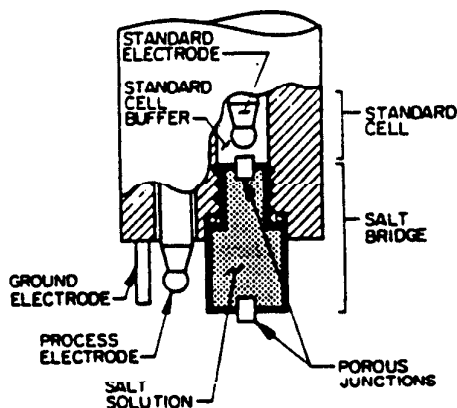

FIGURE 4-1 Sensor Electrode Details
1. Hold sensor in upright position and remove the salt bridge (Figure 4-1) by turning it counterclockwise with pliers to initially loosen it. Take care not to damage the protruding process electrode. Discard the old salt bridge.